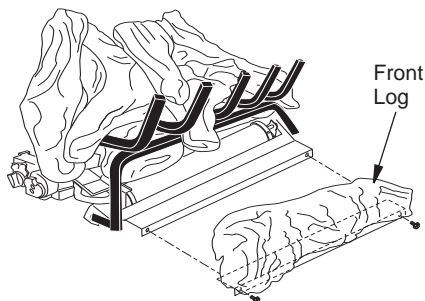

Figure 24 - Removing Front Log to Clean Front Burner
1. Remove the two screws that hold the front log bracket onto the assembly (see Figure 24). The log is attached to this bracket. Gently lift up on the log and bracket. Set aside.